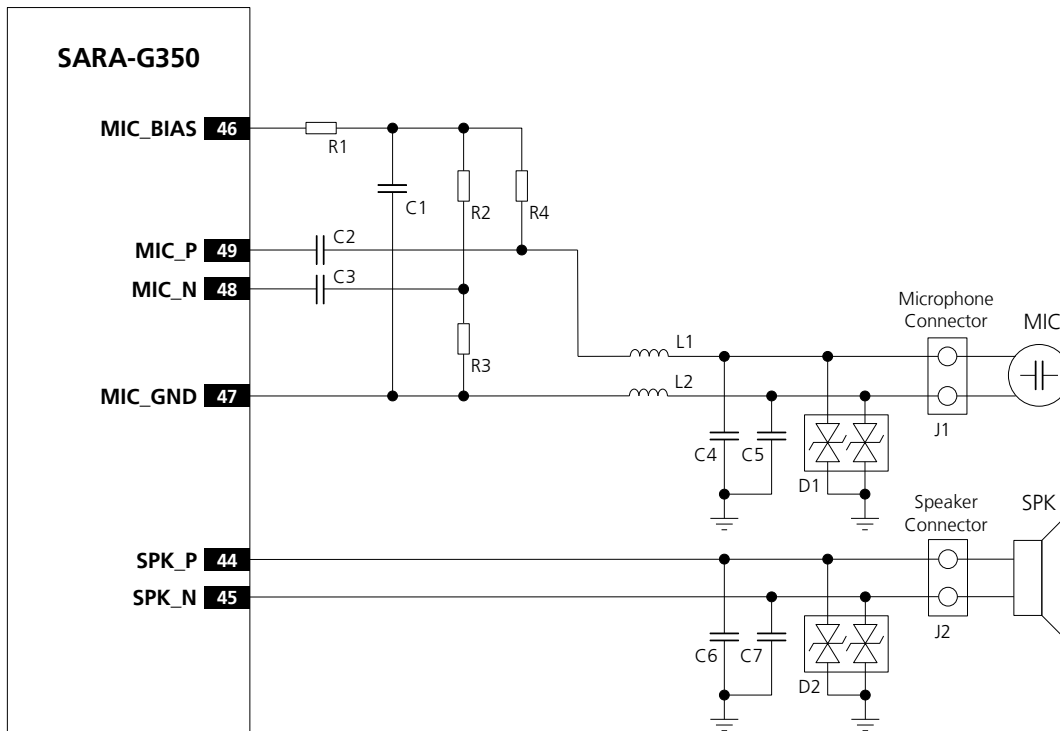

Figure 54: Analog audio interface headset and handset mode application circuit
Figure 54 shows an application circuit for the analog audio interface in headset and handset modes, connecting a 2.2 k $\Omega$  electret microphone and a 16  $\Omega$  receiver / speaker:
- External microphone can be connected to the uplink path of the module as described in Figure 54, since the module provides supply and reference as well as differential signal input for the external microphone
- 16  $\Omega$  receiver / speaker can be directly connected to the balanced output of the module as described in Figure 54, since the differential analog audio output of the module is able to directly drive loads with resistance rating greater than 14  $\Omega$
The general guidelines for the design of the analog audio circuit for both headset and handset modes, fulfilled implementing the circuit of Figure 54, are the following:
- Provide proper supply to the used electret microphone, providing a proper connection from the MIC\_BIAS supply output to the microphone. It's suggested to implement a bridge structure as described in Figure 54:
- Provide a proper series resistor at the MIC\_BIAS supply output and then mount a proper large bypass capacitor to provide additional supply noise filtering, as the R1 series resistor (2.2 k $\Omega$ ) and the C1 bypass capacitor (10  $\mu$ F) in the circuit implemented in Figure 54
- Connect the reference of the microphone circuit to the MIC\_GND pin of the module as a sense line: implement the connection described in Figure 54
- Provide a proper series capacitor at both MIC\_P and MIC\_N analog uplink inputs for DC blocking (as the C2 and C3 100 nF Murata GRM155R71C104K capacitors in Figure 54) to provide an high-pass filter for the microphone DC bias with proper cut-off frequency according to the value of the resistors of the microphone supply circuit, and then connect the signal lines to the microphone as described in Figure 54
- Provide proper parts on each line connected to the external microphone as noise and EMI improvements, to minimize RF coupling and TDMA noise, according to the custom application requirements. Following the circuit described in Figure 54:
- mount an 82 nH series inductor with self resonance frequency  $\sim$ 1 GHz (e.g. Murata LQG15HS82NJ02) on each microphone line, as L1 and L2 inductors in Figure 54
- mount and a 27 pF bypass capacitor (e.g. Murata GRM1555C1H270J) from each microphone line to solid ground plane, as C4 and C5 capacitors in Figure 54
- Connect the **SPK\_P** and **SPK\_N** analog downlink outputs directly to the receiver / speaker (which resistance rating has to be greater than 14  $\Omega$ ) as in the circuit described in Figure 54
- Provide proper parts on each line connected to the receiver / speaker as noise and EMI improvements, to minimize RF coupling, according to EMC requirements of the custom application. Following the circuit described in Figure 54:
- mount and a 27 pF bypass capacitor (e.g. Murata GRM1555C1H270J) from each speaker line to solid ground plane, as C6 and C7 capacitors in Figure 54
- Provide an additional ESD protection (e.g. EPCOS CA05P4S14THSG varistor array) if the analog audio lines will be externally accessible on the application device, according to EMC/ESD requirements of the custom application. The protection should be mounted close to accessible point of the line, as the D1 and D2 parts in the circuit described in Figure 54